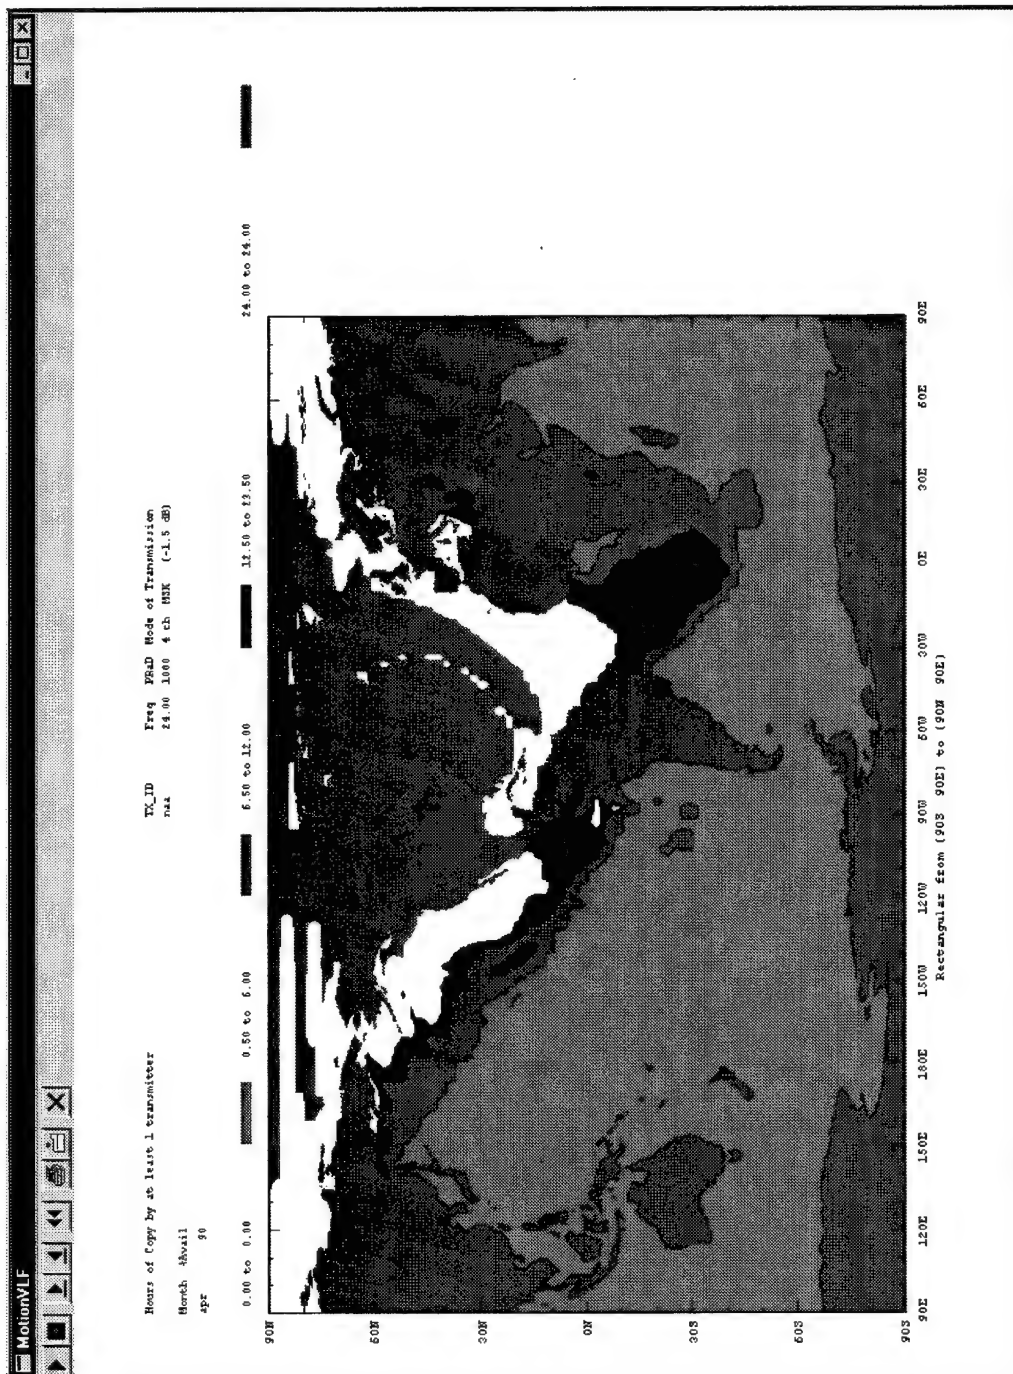

Figure 24. Example of an hours of coverage chart.
- An Hours of Copy coverage chart can be generated to show a summary of the number of hours that the selected transmitter covers an area. To view an hours of copy coverage chart, select Run Scenario->Show HofC. Figure 24 is an example of the resulting hard copy.